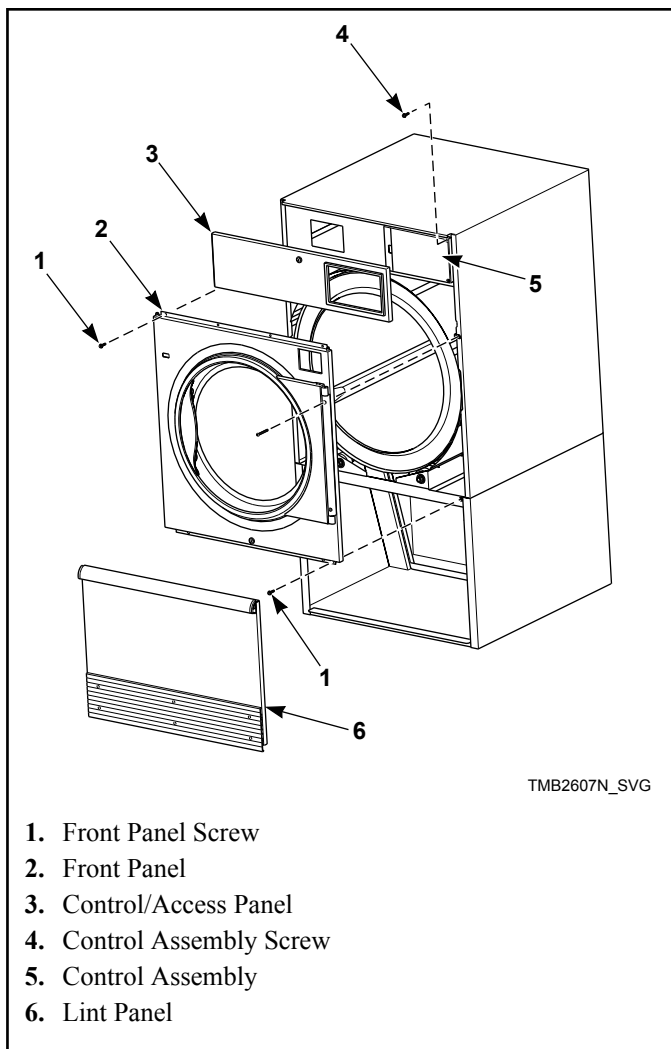

Figure 8
2. Unlock and remove control panel. Remove two control assembly mounting screws from right side. Swing open control to access upper flange right guide lug assembly. Refer to *Figure 8*.
4. Remove four front panel screws. Refer to *Figure 8* . Keep door hinge cams in place on door hinge lug. Pull lug and door assembly off as one piece. Refer to *Figure 9* .
5. Remove remaining front panel screws. Refer to *Figure 8* . Disconnect door switch harness from switch. Take off front panel. Refer to *Figure 9* .